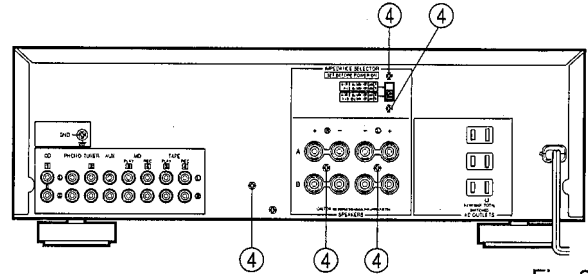

Fig. 2
3. Checking and Parts Replacement of P.C.B. MAIN (1)
- Remove 5 screws (④) fixing the Speaker terminal, Impedance Selector and Heat Sink in Fig. 2.